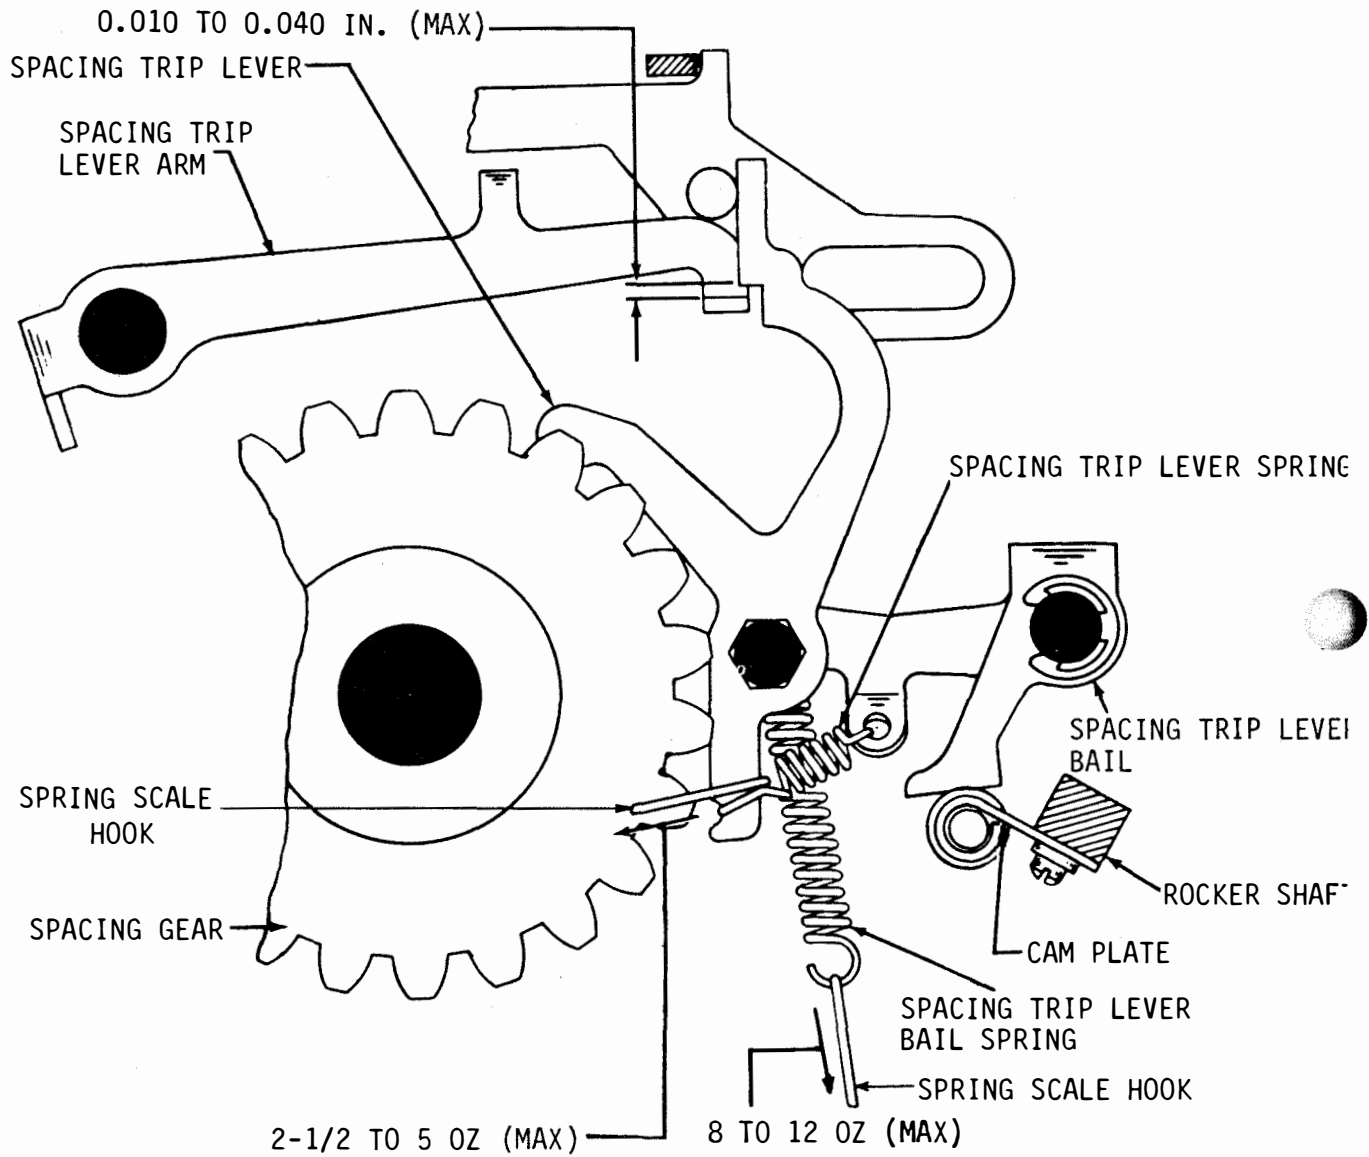
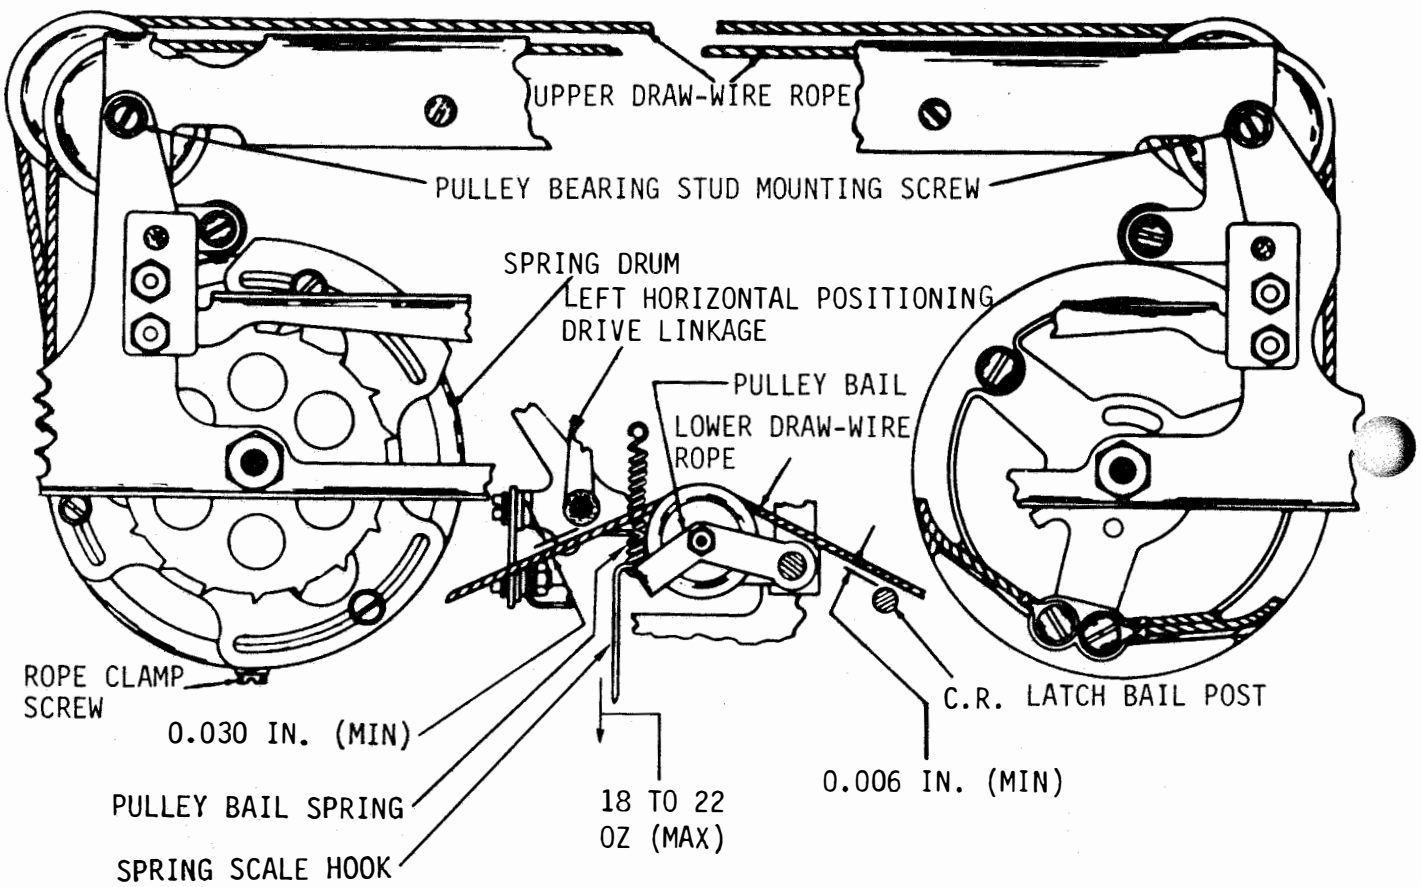

Figure 6-39. Spacing Trip Lever Bail Cam Plate, Trip Lever Bail Spring, and Trip Lever Spring, Left Side View
Figure 6-40. Lower Draw-Wire Pulley Bail Spring and Carriage Draw-Wire Rope, Front View
(5) Spacing Trip Lever Bail Cam Plate. Adjust as follows:
- (a) Refer to Figure 6-39.
(6) Spacing Trip Lever Bail Spring. Adjust as follows:
(7) Spacing Trip Lever Spring. Adjust as follows:
(8) Lower Draw-Wire-Rope Pulley Bail Spring. Adjust as follows:
- (a) Refer to Figure 6-40.
(9) Carriage Draw-Wire-Rope. Adjust as follows: